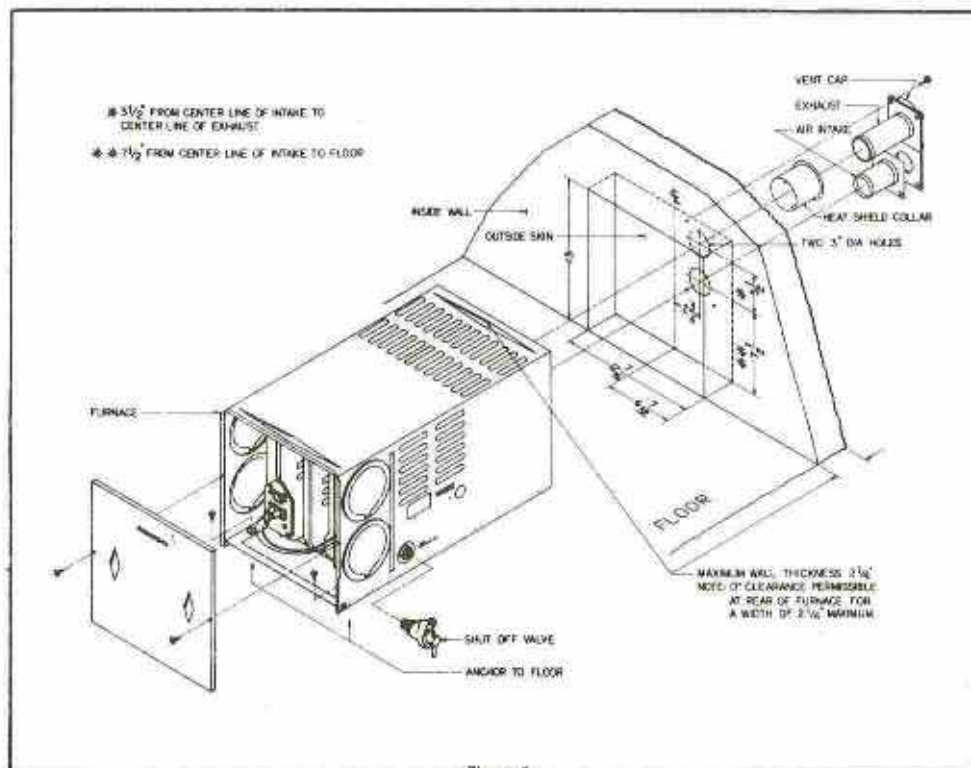
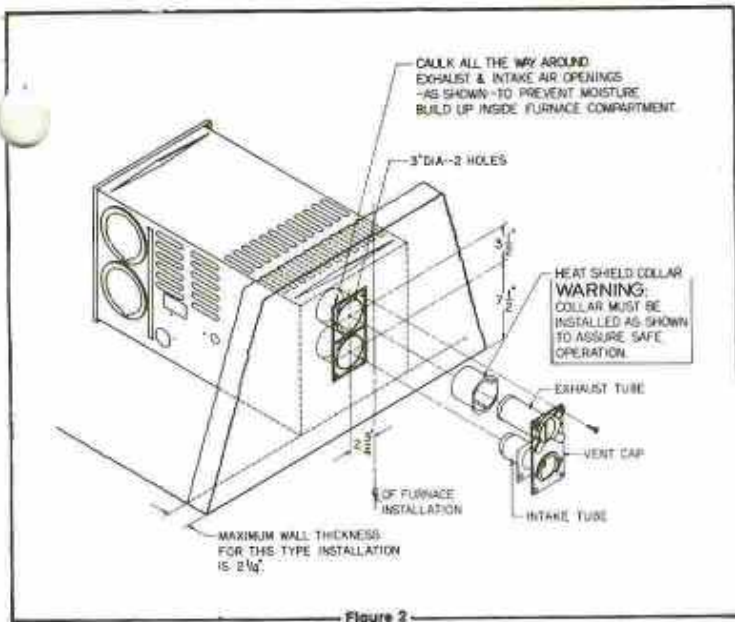

Figure 1
Figure 2
A. INSTALLATION DIRECTLY AGAINST OUTER SKIN OF COACH (SEE FIGURE 1)
NOTE: Side and top clearances may be 0" for through the wall installations up to a maximum wall thickness of 2 1/4" (See Figure 1.)
4. Cut an opening through the inner wall 12 7/16" x 13". This will allow the rear of the furnace to be installed against the outer skin of the coach. (See Figure 1.)
5. Cut two 3" diameter holes through the outer skin of the coach as shown in Figure 1.
7. Fasten furnace to floor of coach using the two holes provided in the front plenum area of furnace cabinet. (See Figure 1.)
B. INSTALLATION DIRECTLY AGAINST INNER WALL OF COACH (SEE FIGURE 2)
4. Locate center lines for exhaust and intake tubes as shown in Figure 1. Cut two 3" diameter holes through coach wall for exhaust and intake. (See Figure 2.)
6. Fasten furnace to floor of coach using the two holes provided in front plenum area of furnace cabinet. (See Figure 1.)
1. Caulk around vent assembly as shown in Figure 2.
4. Attach vent assembly to outer skin of coach with the four (4) screws provided. Do not install vent assembly upside down. The words "Suburban" and "Dayton, Tenn." must be right side up.
WARNING! Do not omit heat shield collar. It must be installed as illustrated in Figure 2. If omitted, unsafe furnace operation could occur.
1. Be sure that the manual shut-off valve is outside of the furnace jacket and easily accessible. (See Figure 1.) The shut-off valve is to be connected directly to the 90° elbow at the gas inlet to the furnace.